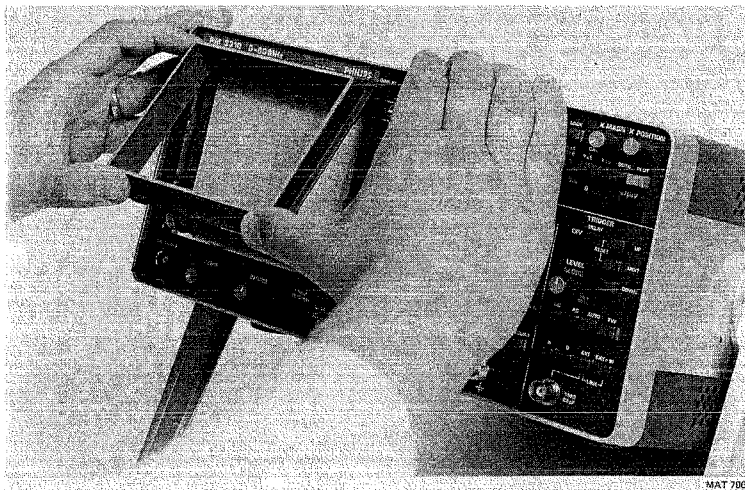

Fig. 3.28. Removing the bezel and the contrast plate.
- Grip the bottom corners of the bezel and gently pull it from the front panel (Fig. 3.28.).